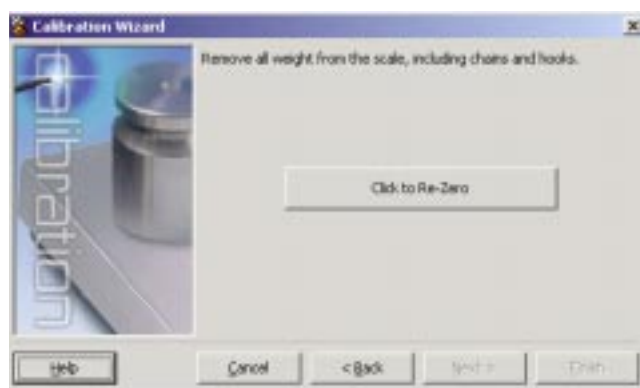

Figure 4-8. *iRev Rezero Display*
6. If the option for chains or hooks was selected in step 3, the Rezero display is shown (see Figure 4-8). Remove all weights from the scale, including chains or hooks. Press the *Re-Zero* button to calibrate the zero offset.